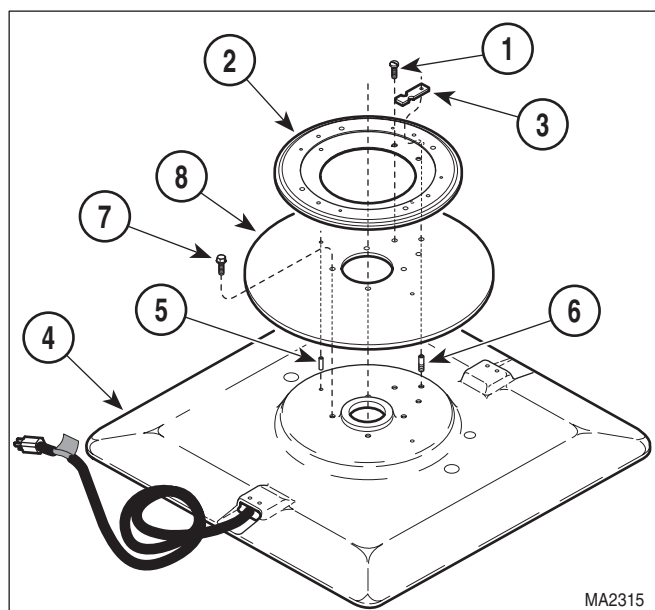

Figure 4-44. Table Rotation Bearing Removal / Installation
- (19) Remove rotational base (3), thin bearing washer (9), thrust bearing (10), and thick bearing washer (11) from platform base weldment (6).
- (20) Remove two screws (1, Figure 4-44).
- (21) Remove table rotation bearing (2) and rotation stop plate (3) from rotational base (4), by pulling table rotation bearing straight up and off of two groove pins (5).
- (22) If damaged, remove stop plate post (6) from rotational base (4).
- (1) If removed, install groove pins (5, Figure 4-44) in rotational base (4).
- (2) If removed, install stop disc (8) on rotational base (4) and secure with four screws (7).
- (3) If removed, coat threads of stop plate post (6) with removeable threadlocking adhesive (Loctite 242) Install stop plate post (6) in rotational base (4).
- (4) Coat bearings of table rotation bearing (2) with high temperature grease.